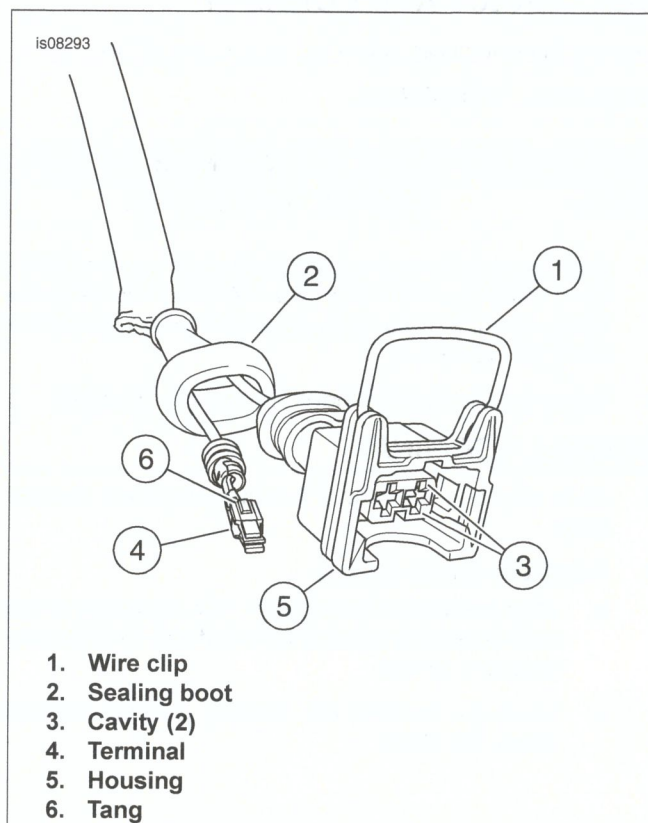

Figure A-34. Tyco Sealed Timer Connector
1. See Figure A-34. Remove wire clip (1).
1. See Figure A-34. Remove sealing boot (2) from housing (5).
2. Insert the smallest pins of the SNAP-ON TERMINAL PICK (Part No. GA500A) into the cavities (3) on each side of the terminal to compress the tangs (6) on each side of the terminal (4).
1. See Figure A-34. Bend the tangs (6) on each side of the terminal outward.
2. Align terminal (4) to the housing (5). Install the terminal into housing. Terminal will snap into place.